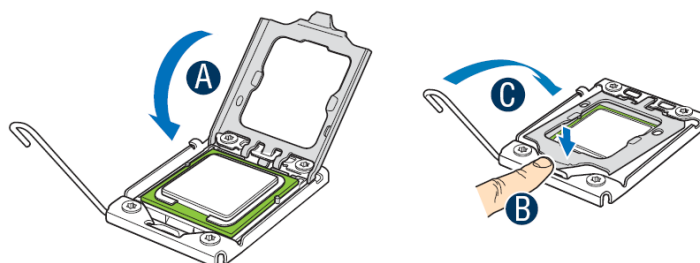

Figure 33. Close Load Plate and Socket Lever
11. Close the load plate and socket lever: Close the load plate all the way as shown in Figure 33 (Step “A”), push down on the load plate (Step “B” in Figure 33), and close the socket lever and ensure the load plate tab engages under the socket lever when fully closed (Step “C” in Figure 33).